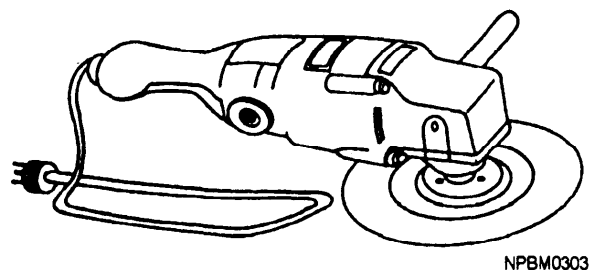

Figure 11-5.—Portable electric disk sander.
- **DISK SANDER.**—Electric disk sanders (fig. 11-5) are especially useful on work where a large amount of material is to be removed quickly, such as scaling surfaces in preparation for painting. This machine, however, must not be used where a mirror-smooth finish is required.